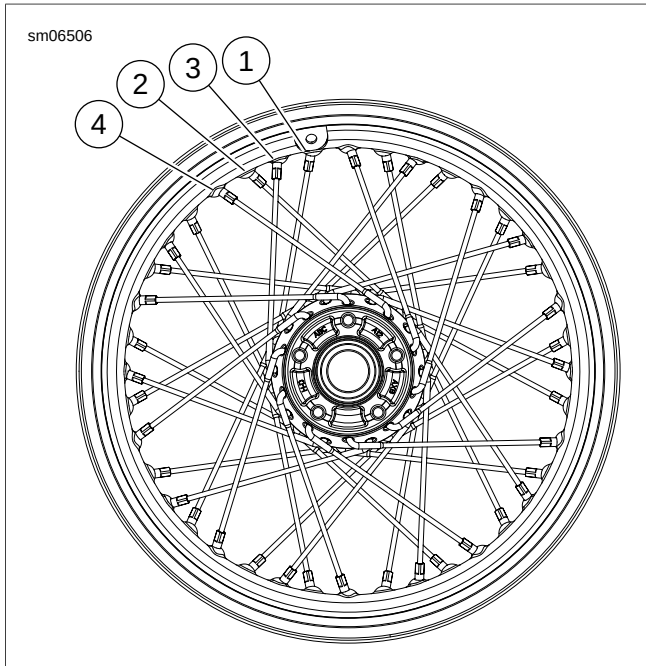

Figure 2-14. Side Valve Rim
- a. **Rim with side valve hole:** See Figure 2-14. Start at the valve stem hole (1).